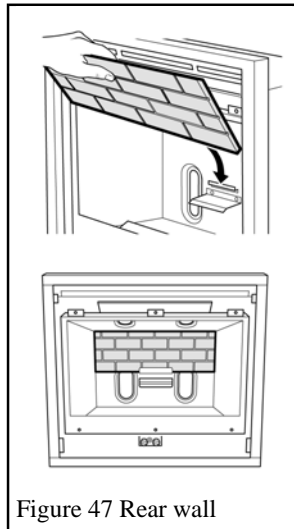

Figure 47 Rear wall
1. Locate the ceramic rear wall in the channel at back of the firebox and flat against the back of the firebox. See figure 47.